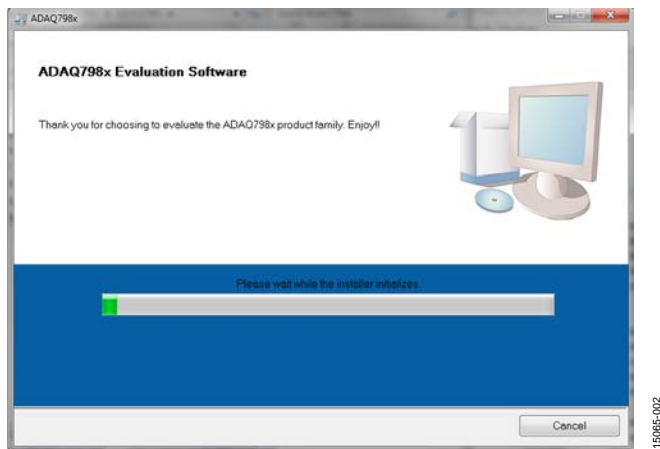

Figure 2. ADAQ7980 Evaluation Board Software Installation—Installation Begins
3. Double-click the **setup.exe** file to begin the evaluation board software installation (see Figure 2).